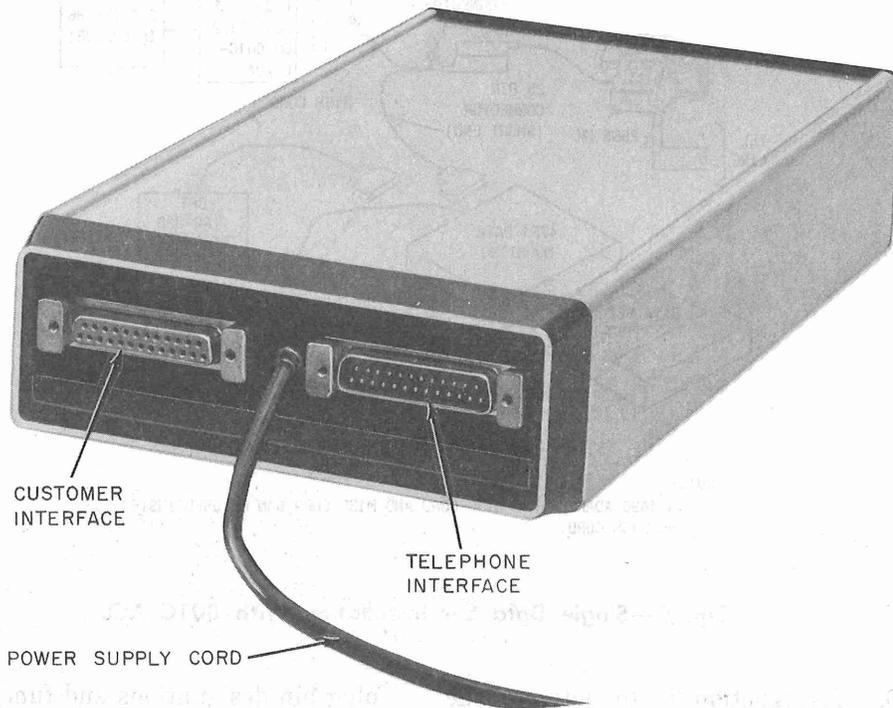

Fig. 7—DS 113C-L1/2—Rear View
3.02 The customer interface conforms to EIA Standard RS-232-C. The 25-pin female connector is not part of the data set card but is provided on the mounting (Fig. 7). The connector pin designations and functions are listed in Table A.
3.04 A plug is provided on the mounting for all telephone company connections (Fig. 7). The